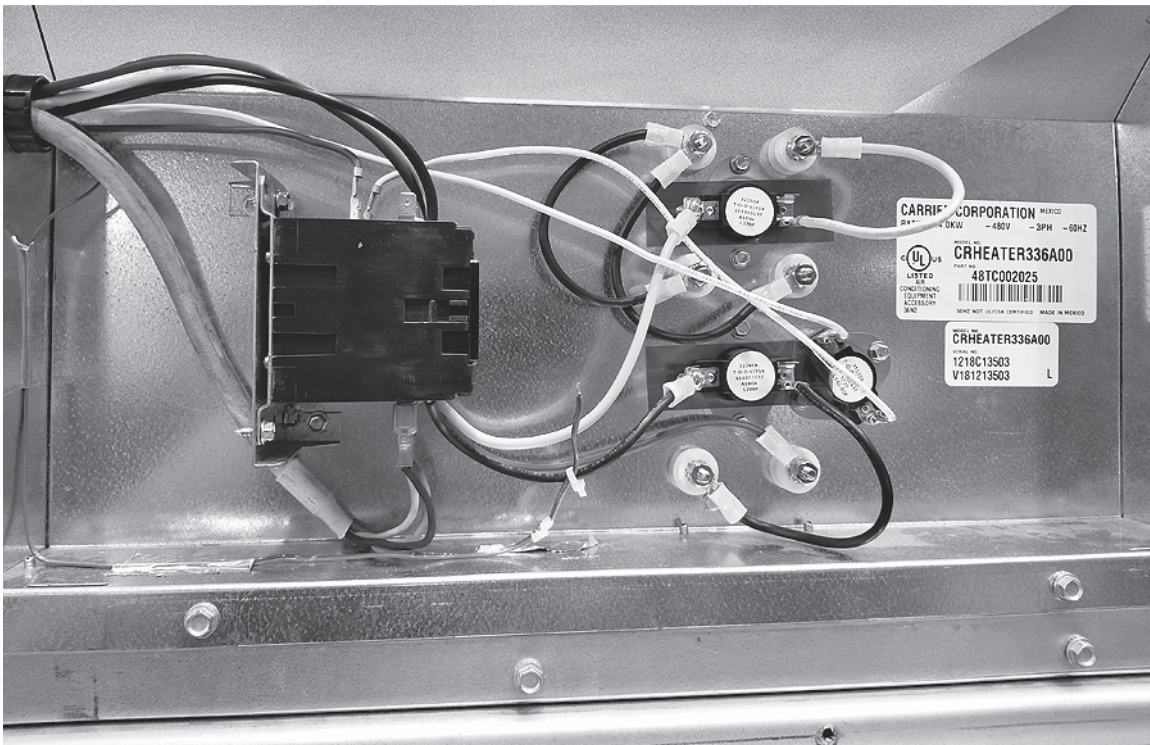

Fig. 17 — Heater Wiring
8. Run conduit through (rigid or EMT) the conduit drip boot in the rain shield bracket to the single point box. Provide an appropriate fitting to connect the conduit to the single point box wall and ground appropriately. (See Fig. 17.) Drip boot eliminates the need for watertight conduit fittings at the single point box.